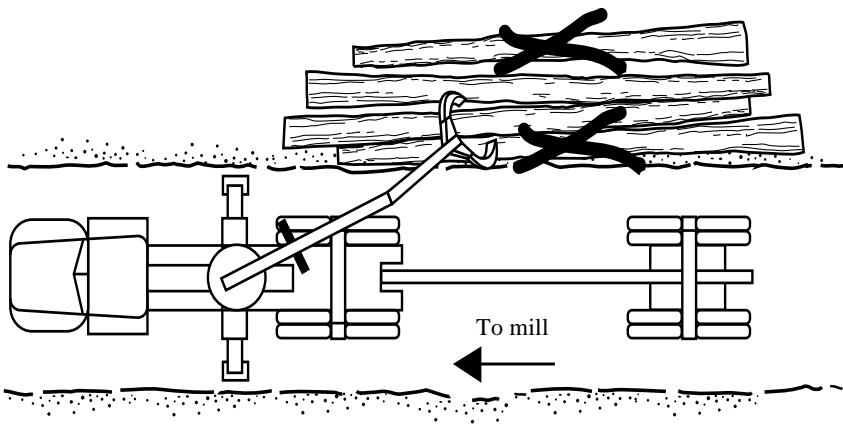

Figure 2.—Deck long, limber logs with butts toward the loader.
- Deck long, limber logs with butts toward the loader (Figure 2); otherwise, they may break when lifted.